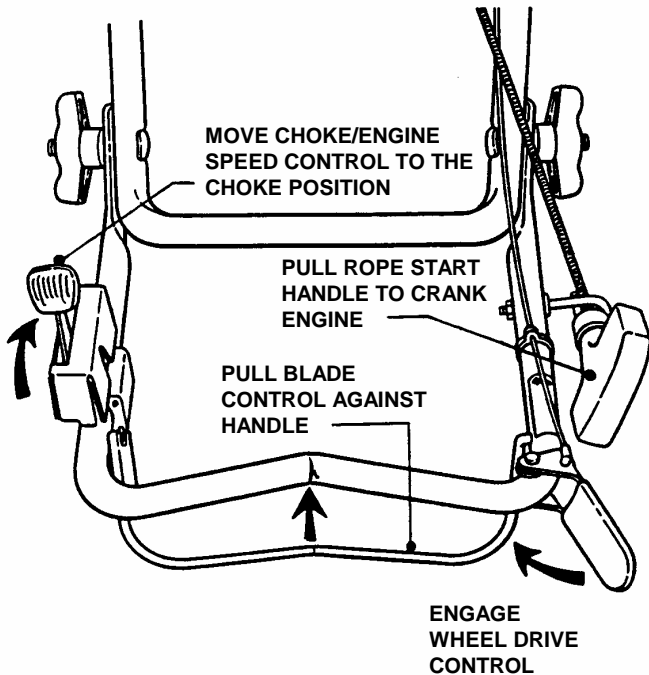

FIGURE 2.4
1. Move choke/engine speed control to the "Choke" position. See Figure 2.4.
3. Move wheel drive control against handle to engage wheel drive and propel mower forward. See Figure 2.4.